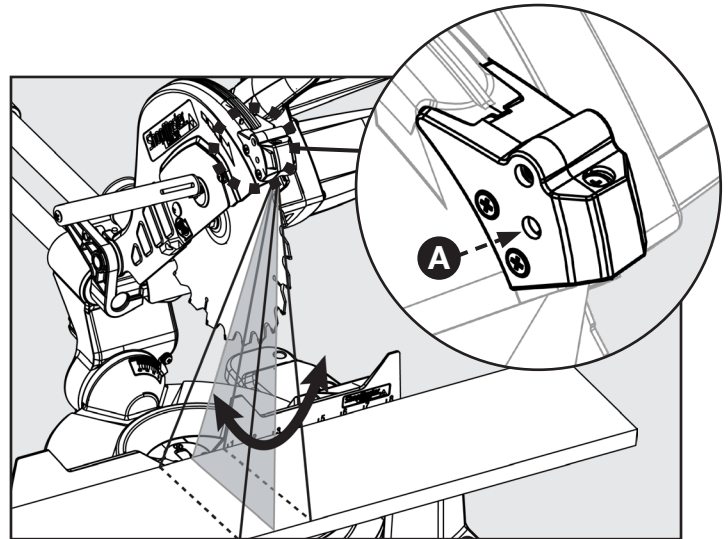

FIGURE 26
If you notice the laser line does not remain parallel to the blade as the saw head is lowered to make a cut refer to Figure 26 and follow these instructions: using a Phillips head screwdriver turn the screw (A) to adjust the vertical angle of the laser.